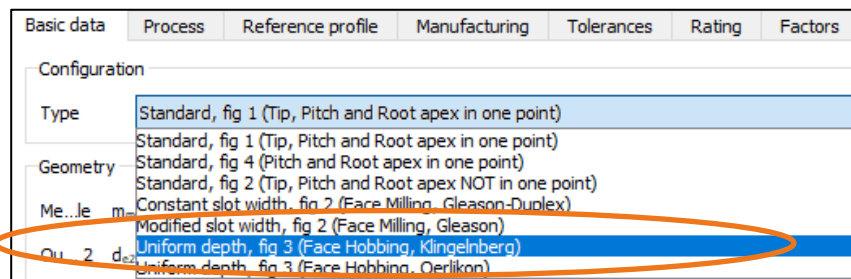

Figure 24. Selecting «Uniform depth» type for the cyclo-palloid procedure
1. In «**Basic data**» → «**Type**», select the «**Uniform depth, Fig 3 (Face Hobbing, Klingelberg)**» type (see Figure 24).